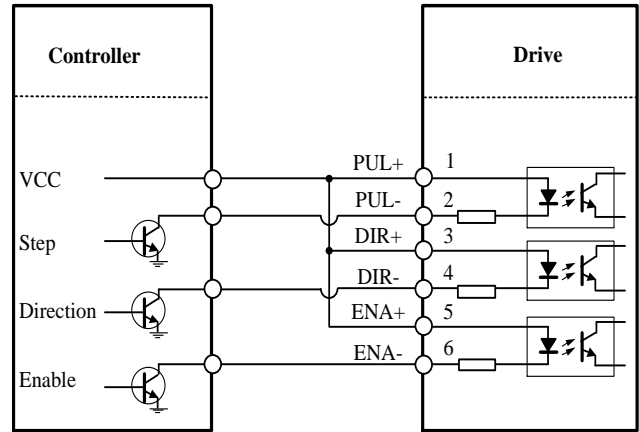

Figure 2 Connections to PNP signals
PUL+	Pulse and Direction Connection: (1) Optically isolated, high level 4.5-5V or 24V, low voltage 0-0.5V (2) Maximum 200 KHz input frequency (3) The width of PUL signal is at least 2.5μs, duty cycle is recommended 50% (4) DIR signal requires advance PUL signal minimum 5 μs in single pulse mode (5) The factory setting of control signal voltage is 24V, must need to set S2 (figure 2) if it is 5V
The P4 connector in Figure 2 is a RS232 communication port for PC connection. Refer to the following pin definitions.